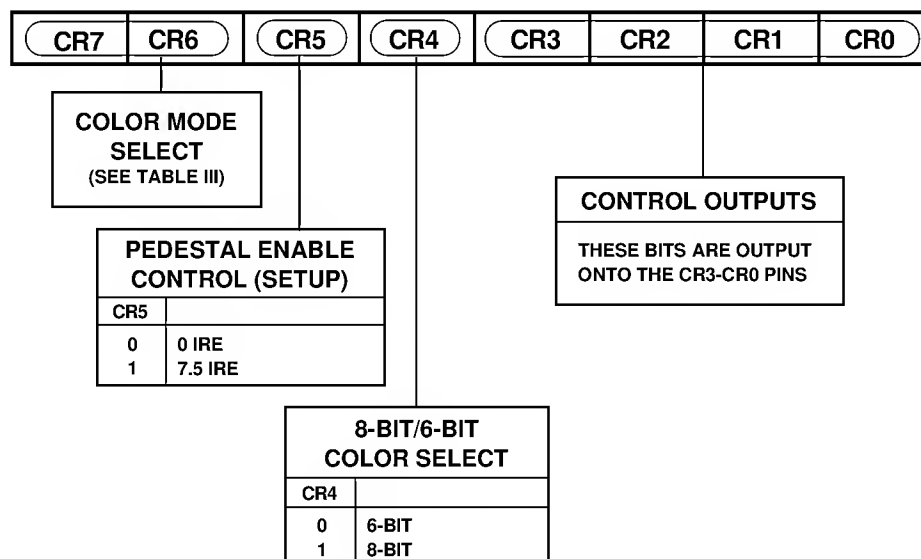

Figure 4. Command Register (CR)
The ADV473 has an internal command register (CR). This register is 8 bits wide, CR0-CR7 and is directly mapped to the MPU data bus on the part, D0-D7. The command register can be written to or read from. It is not initialized, therefore it must be set. Figure 4 shows what each bit of the CR register controls and shows the values it must be programmed to for various modes of operation.